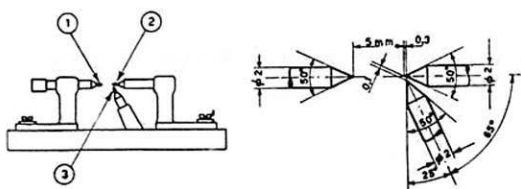

Fig. 76. Three-point sparkgap.
- (a) a high tension circuit including the three-point spark gap (Fig. 76).
At least 85% of sparks should occur when running the rotor at 150 r.p.m. with lights on and (0.197") gap (see Fig. 76).